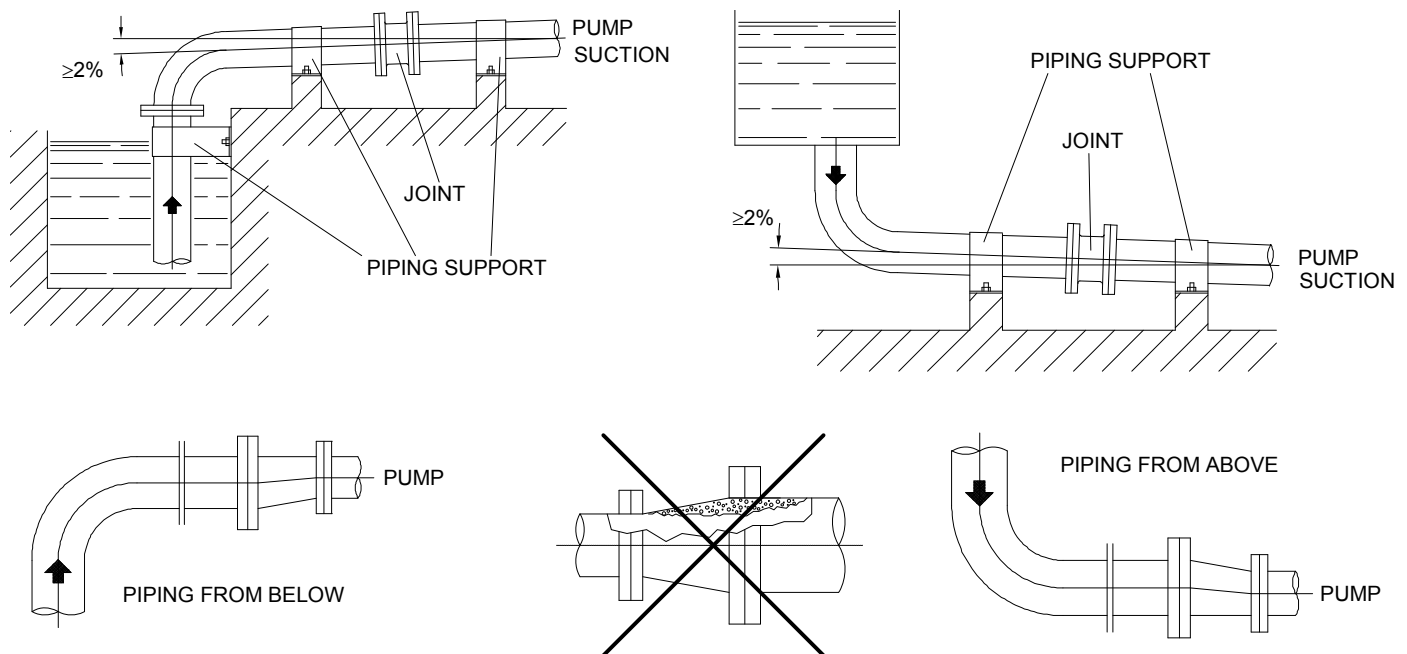

Fig. 5
Identify first locations and dimensions of all connections required to interconnect the pump with the installation, then proceed with the actual piping: connect the pump suction (see fig. 5) and discharge flanges, the service liquid line and all other service connections.
7.2.1 - Suction piping (see fig. 5 and 6)